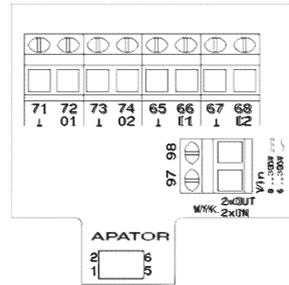

Fig. 20. Module view: 2 pulse outputs + 2 pulse inputs
- 2 pulse inputs and 2 pulse outputs module (module code 080), the module is shown in figure 20.